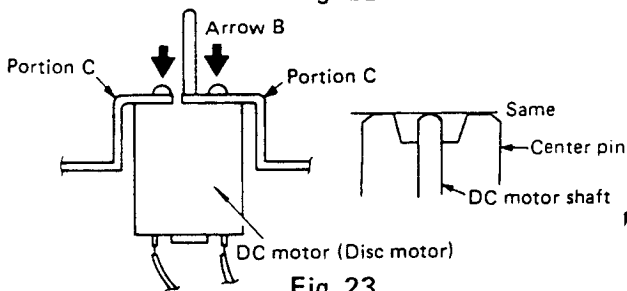

Fig. 23
- 4) Press in the center pin into the DC motor shaft so that the shaft tip is aligned with the center pin tip. (Fig. 23)